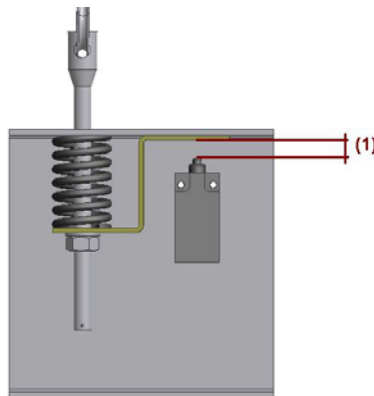

Figure 7: De- tensing margin
Figure 7 below displays the above-mentioned "maximum position", where (1) is the "de-tensing margin".